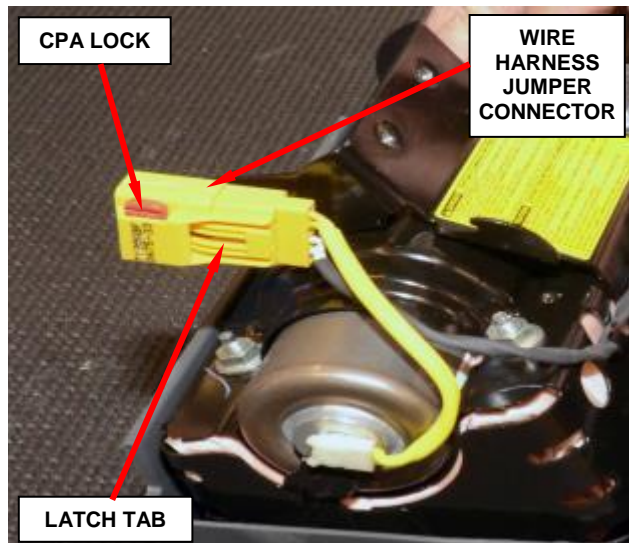

Figure 14 – Wire Harness Jumper
- a. Slide the red Connector Position Assurance (CPA) lock on the connector toward the side of the connector (Figure 14).